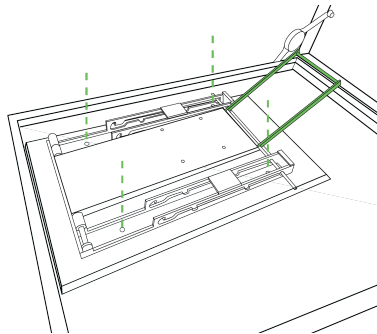

Figure 6-22. Kickstand aligned on mounting platform
3. Place the kickstand on its raised mounting platform on the top compartment with its handle closest to the compartment lid. Align the holes in the kickstand with the mounting holes in the raised platform (Figure 6-22).